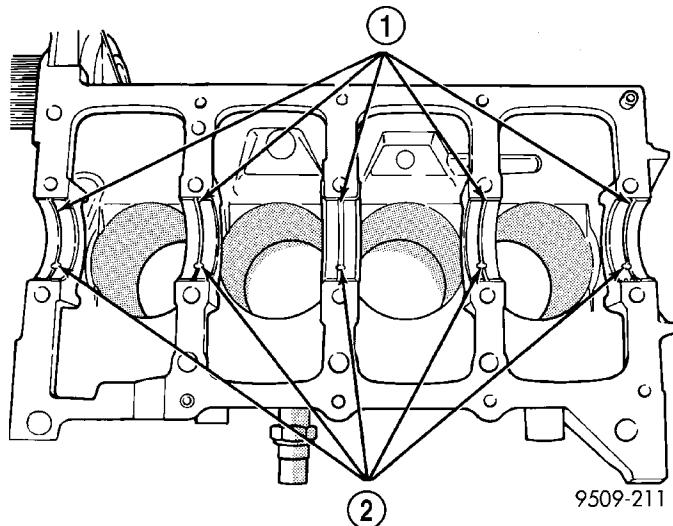

Fig. 48 Installing Main Bearing Upper Shell
(1) Install the main bearing upper shells with the lubrication groove and oil hole in the engine block (Fig. 48).